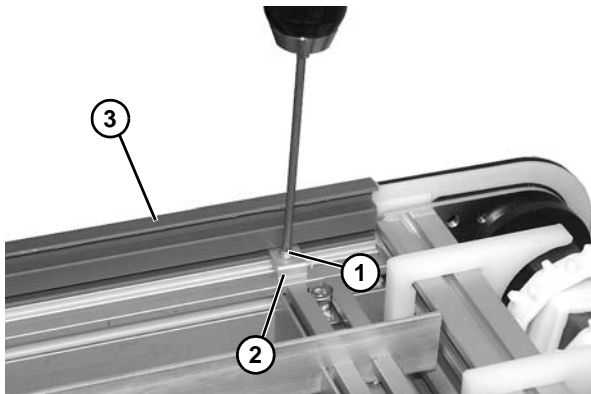

Figure 42
1. Using T20 torx tool, remove torx screws (**Figure 42, item 1**) and clamps (**Figure 42, item 2**) holding outer top wear strip (**Figure 42, item 3**) to frame.
2. Remove outer top wear strip (**Figure 42, item 3**) from frame assembly.